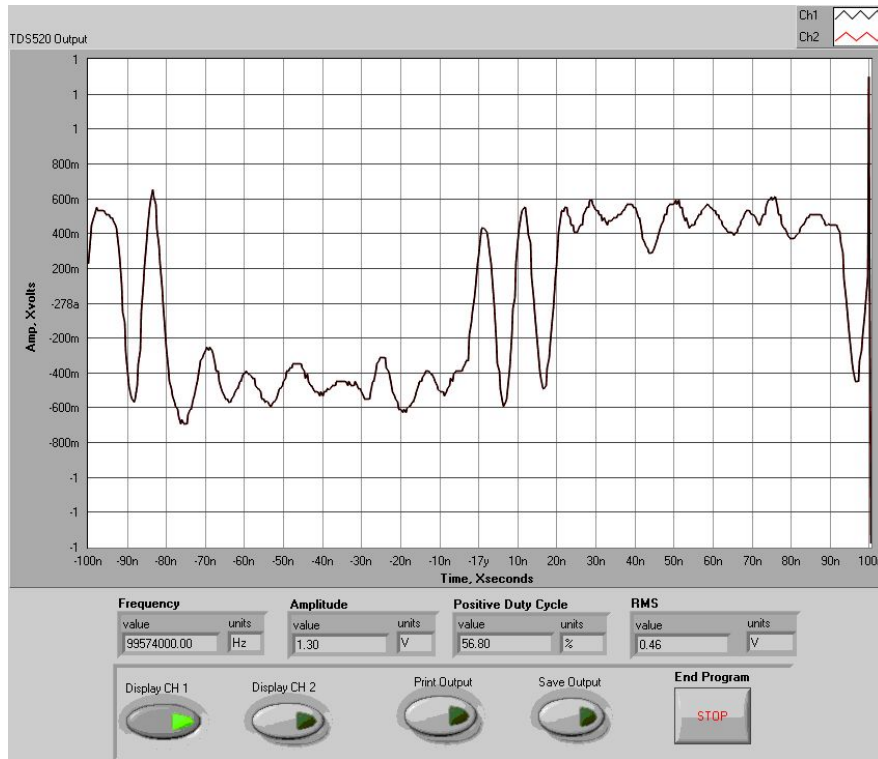

Figure 2 - Frame with D-0 High
8. Adjust signal generator to produce a TTL signal at 1 Hz. This will toggle D-0 in the frame. See figure 2.